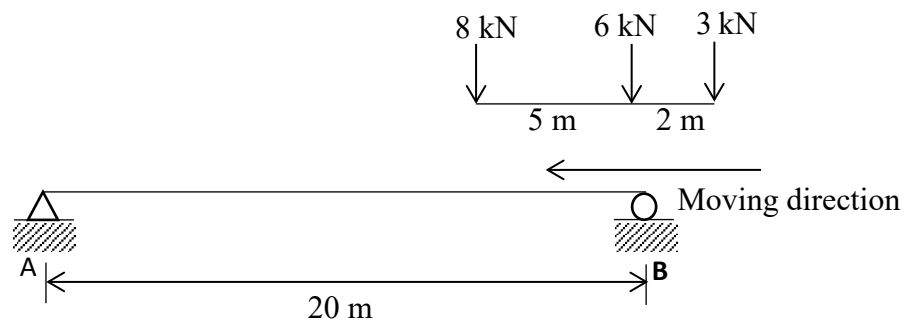

Figure A2(b) / *Rajah A2(b)*
- (b) A simply supported beam in Figure A2(b) which supported at A and B is subjected to a series of moving loads of 8 kN, 6 kN and 3 kN respectively. By using the Influence Line Diagram Method, evaluate the Absolute Maximum Moment due to a series of loads moving from right to left.